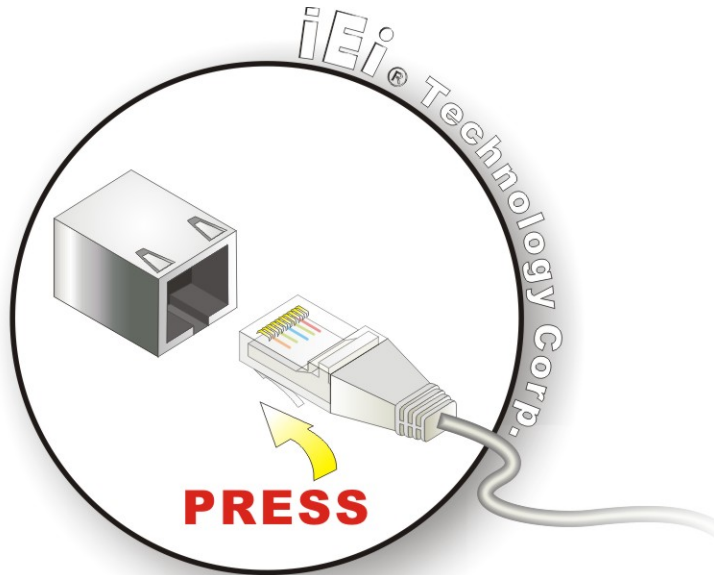

Figure 2-19: LAN Connection
Step 2: Align the connector. Align the RJ-45 connector on the LAN cable with one of the RJ-45 connectors on the bottom panel of the AFL-08B-N270. See **Figure 2-19**.